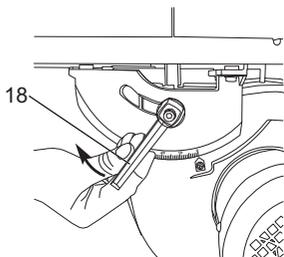

Fig. 5
> Alternatively you can tighten the fixing handle (18) in a clockwise direction as shown Fig. 5.